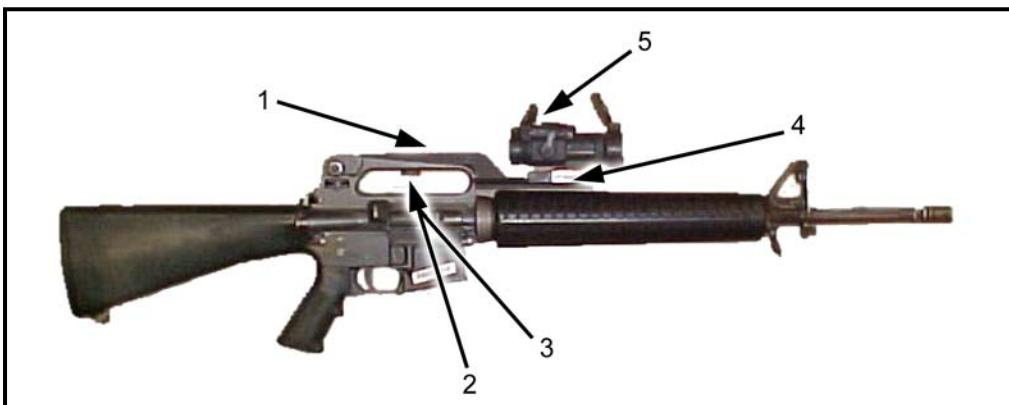

Figure 2-24. Mounting the M68 to the M16A1/A2/A3.
- a. **M16A1/A2/A3 Rifle** (Figure 2-24, page 2-16). The M68 mounts on the M16 mounting bracket (1) that attaches to the carrying handle on the M16A1/A2/A3. The half-moon spacer should not be installed but, if installed, it will not hinder firing performance. Firmly hand-tighten the bracket (1), O-ring (2), and machine screw (3). Align the locking bar (4) under the M68 with the notch in the rail ensuring the rotary switch (5) is facing the firer. Tighten the torque-limiting knob (not shown here) until it clicks two times.